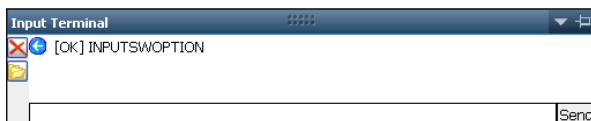

Figure 28: Successful Software Options Upload
The *Input Terminal* window also displays the outcome of the upload (see Figure 28). In the example below, the upload is successful. Refer to the *Sapphire Technical Reference Manual* for detailed information on the INPUTSWOPTION command (see *Related Documents* in the fore-matter).
64. Click *Send* on the *Input Terminal* window. If the software options loaded successfully, the *Input Terminal* window displays a confirmation message (see Figure 28).